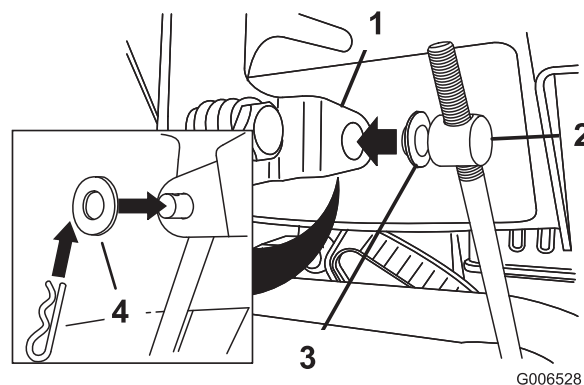

Figure 5
3. Place a flat washer on the trunnion (Figure 5).
- Pull up on the speed control rod and insert the trunnion into the hole in the speed selector lever (Figure 5).
- B. Disconnect the trunnion from the speed selector lever (Figure 5).
- C. Turn the trunnion upward (counterclockwise) on the speed control rod (Figure 5).
- D. Connect the trunnion to the speed selector lever (Figure 5).
- C. Turn the trunnion downward (clockwise) on the speed control rod (Figure 5).